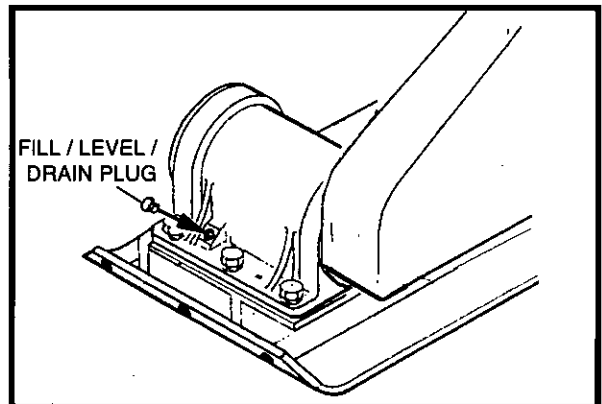

Figure 5-2 Eccentric Housing Oil Level
4. Check the eccentric housing oil level and add oil as needed to bring to correct level, Refer Figure 5-2.